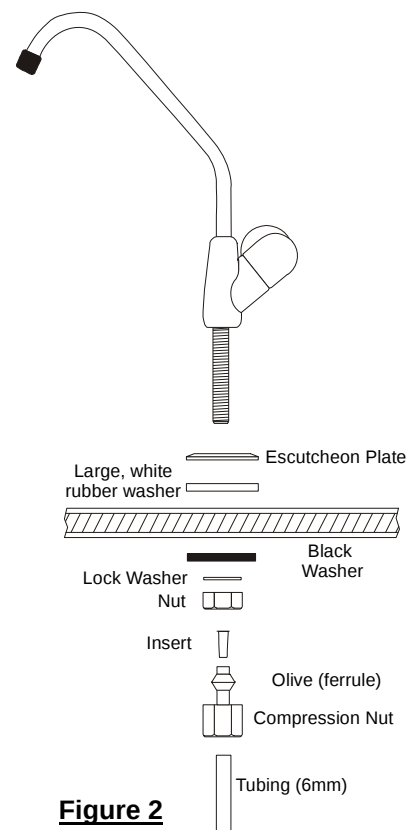

Figure 2
- Assemble faucet in position as shown in Figure 2
- Cut a length of tube to connect to the faucet (this should be long enough to reach the desired final position of the filter unit). Slide the compression nut onto the tubing followed by a plastic olive and then insert the brass or plastic insert (Figure 2). Attach to the faucet and tighten.